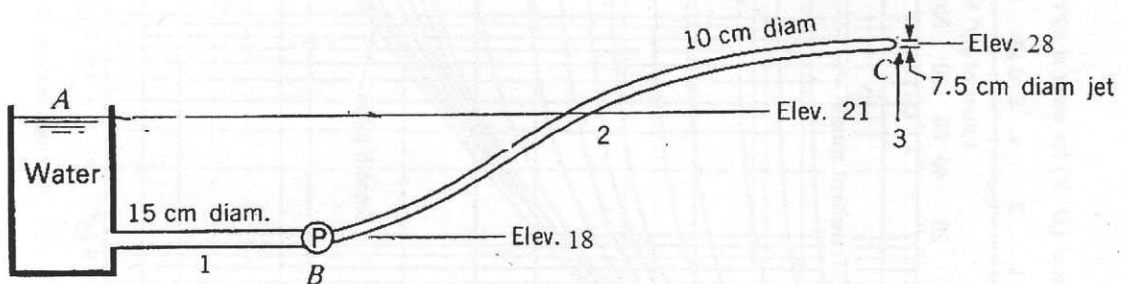

Figure 6
(b) A pipeline with a pump leads to a nozzle as shown in figure 6. Find the flow rate when the pump develops a head of 24 m. Assume that the head loss in the 15-cm diameter pipe may be expressed by $h_L = 5V_1^2/2g$, while the head loss in the 10-cm diameter pipe is $h_L = 12V_2^2/2g$. Sketch the energy line and the HGL, and find the pressure head at the suction side of the pump. (15)